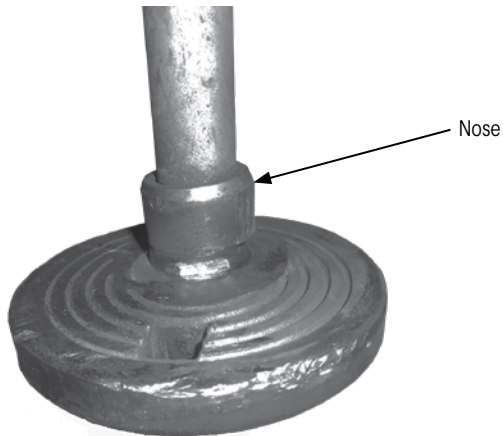

Figure 39: Loose pivot bolt collar nose damage
In severe cases, if gone unnoticed, movement against the edge of the frame bracket alignment slot (Figure 39 on page 28) causes:
- Wearing down of the nose on the collar, which extends through the alignment slot (Figure 39 on page 28).